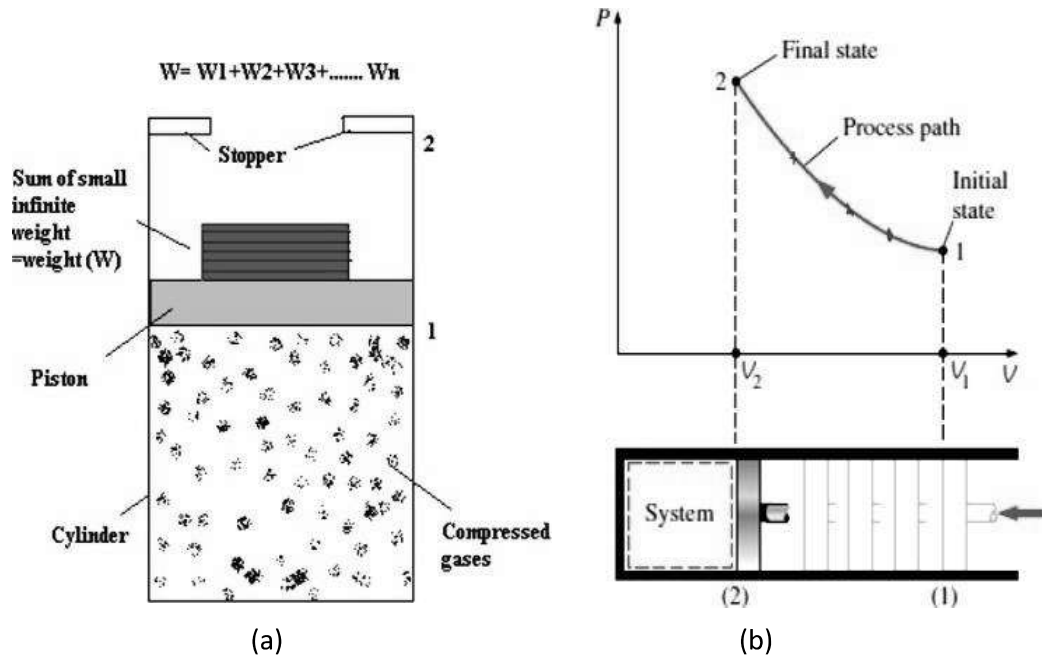

Fig. 1.9 (a) Quasi-Static Process (b)  $p$ - $v$  diagram of a compression process
- Consider a system of gas contained in a cylinder fitted with a piston upon which many very small pieces of weights are placed as shown in Fig.1.9(a).
- Fig. 1.9(b) shows the  $p$ - $v$  diagram of a compression process of a gas.